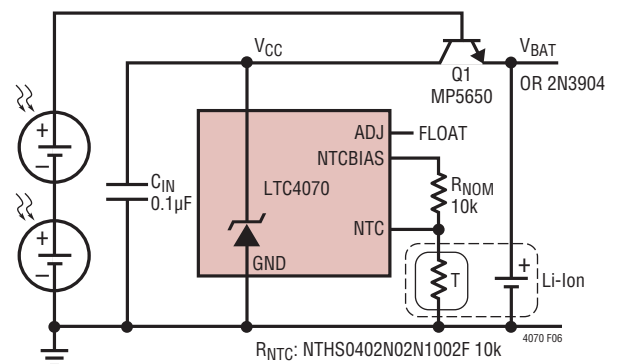

Figure 6. Photovoltaic Charger with Extremely Low Leakage When Not Charging
A photovoltaic (PV) application for the LTC4070 is illustrated in Figure 6. In this application, transistor Q1 has been added to further reduce the already low quiescent current of the LTC4070 to achieve extremely low battery discharge when the PV cells are not charging the battery. In long battery life applications, Q1 isolates the battery from the LTC4070 when Q1's base voltage falls. Under normal operation, the PV cells provide current through the
The PV application schematic in Figure 6 also illustrates using the LTC4070 with a 10k, 5% curve 2 type NTC thermistor, NTHS0402N02N1002F. Here R_{NOM} is 10k, and the rising temperature trip points are 40°C, 50°C, 60°C and 70°C.
| A | 4/10 | Change Q1's Part Number on Figure 6 | 12 |